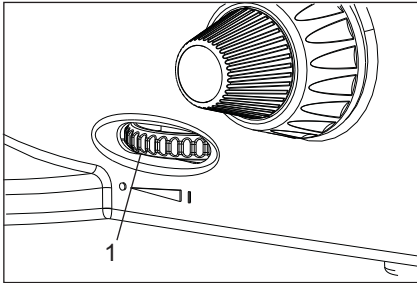

Fig. 10
1. Rotate the On/OFF control knob to "I" (ON) as shown in figure 10.
2. Rotating the light intensity adjustment knob (fig. 10) in the direction of the arrow increases brightness and rotating it in the opposite direction decreases brightness.